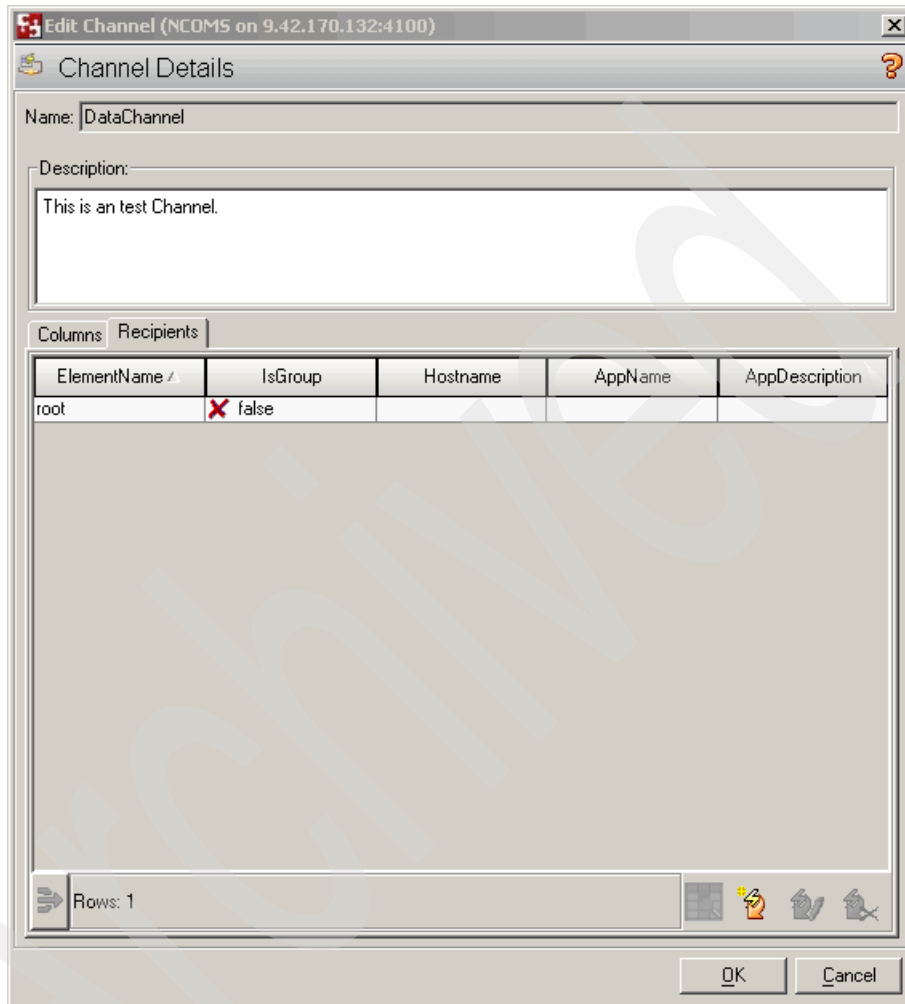

Figure 4-61 Recipient created
- e. On the Recipients tab, select the  button to add new recipient, as shown in Figure 4-61.